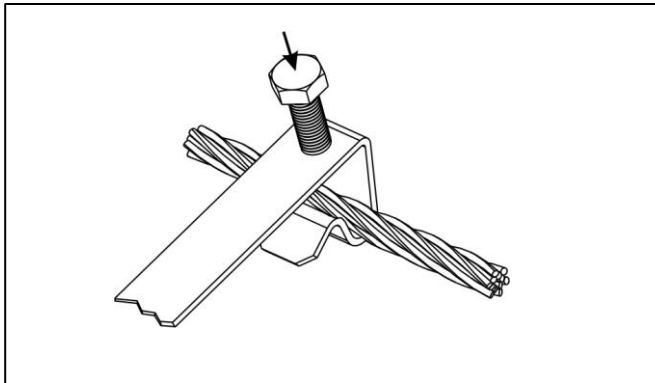

Figure 12. Securing to a strand
- ② Place brackets over the strand and tighten bolts using a 216 tool or wrench as shown in Figure 12.